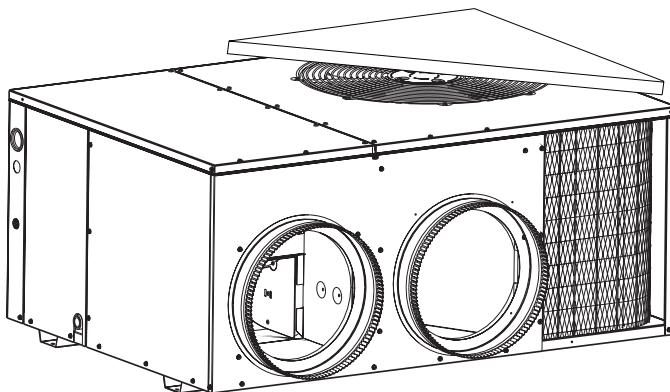

Figure 11. Q95RD With Fan Discharge Blocked Off
1. Block off the discharge of the outdoor fan. **NOTE:** One half of the unit should be covered corner to corner as shown in Figure 11.
3. Measure the outdoor dry bulb temperature (F) and indoor wet bulb temperature (F).